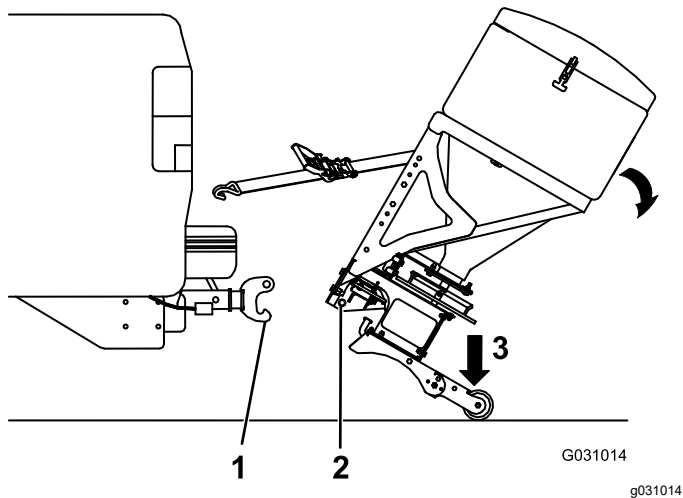

Figure 12
5. Grip the spreader firmly and step on the leg assembly to rotate it back until the bottom pin of the RT3 attachment clears the hook on the RT3 hitch (Figure 12).